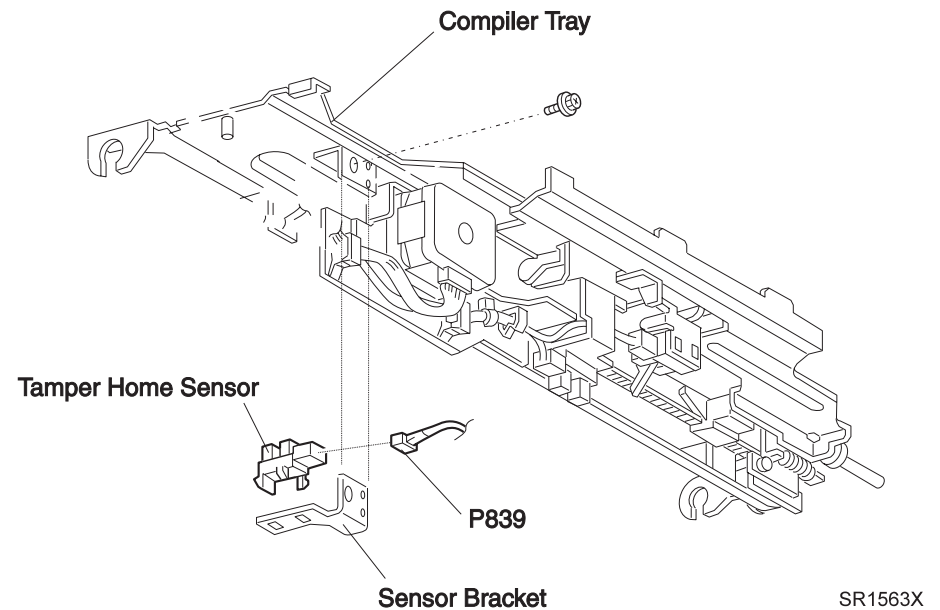

Figure 3-53. Tamper Home Sensor
1. Place the Tamper Home Sensor as shown in the Figure 3-53 and insert the Sensor with the latches ahead into the cutout of the Sensor Bracket and set the latches.